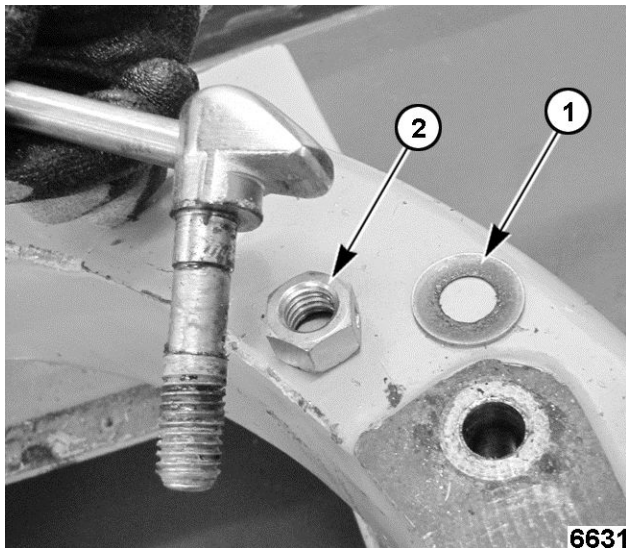

Fig. 127
1. Install spring washer (1, Fig. 127) cupped-side-up onto threaded shaft of bowl clamp.
2. Increase or decrease tension on the bowl clamps by tightening or loosening the locknuts (2, Fig. 127).